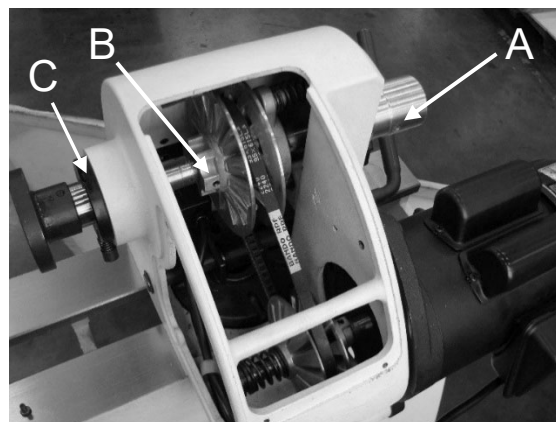

Figure 34
3. Remove top and side covers (see Figure 34).
4. Loosen two setscrews in handwheel (A, Figure 34), with 3mm hex wrench, and slide handwheel off shaft.
5. Loosen two set screws in left half of spindle pulley (B, Figure 34).
6. Remove spindle bearing cover (C, Figure 34) by removing three screws.
IMPORTANT: Keyway alignment is critical for proper installation and operation. Do not force the pulley. When reinstalling handwheel (A, Figure 34), thread it onto the spindle until it is snug; then back off slightly and tighten the set screw.